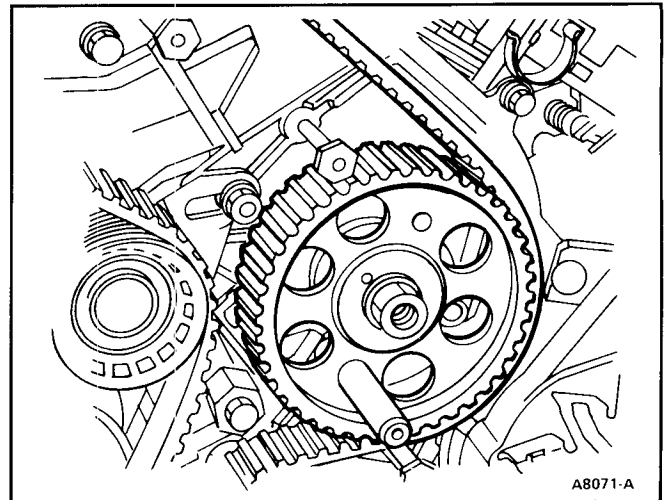

FIG. 36 Injection Pump Aligning Pin
2. Install Injection Pump Aligning Pin T84P-9000-A or equivalent, through injection pump sprocket (Fig. 36).